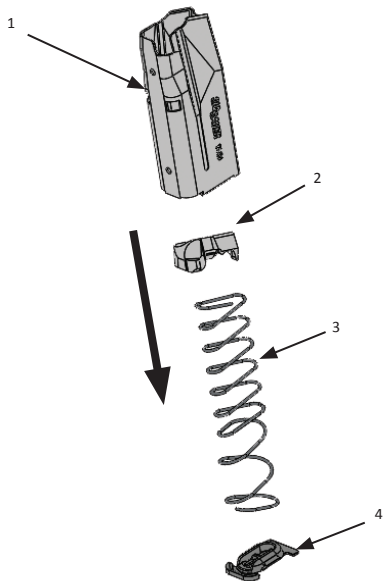

Figure 3
4. Remove the insert (Figure 3, Item 4), magazine spring (Figure 3, Item 3) and follower (Figure 3, Item 2) from the magazine tube (Figure 3, Item 1).